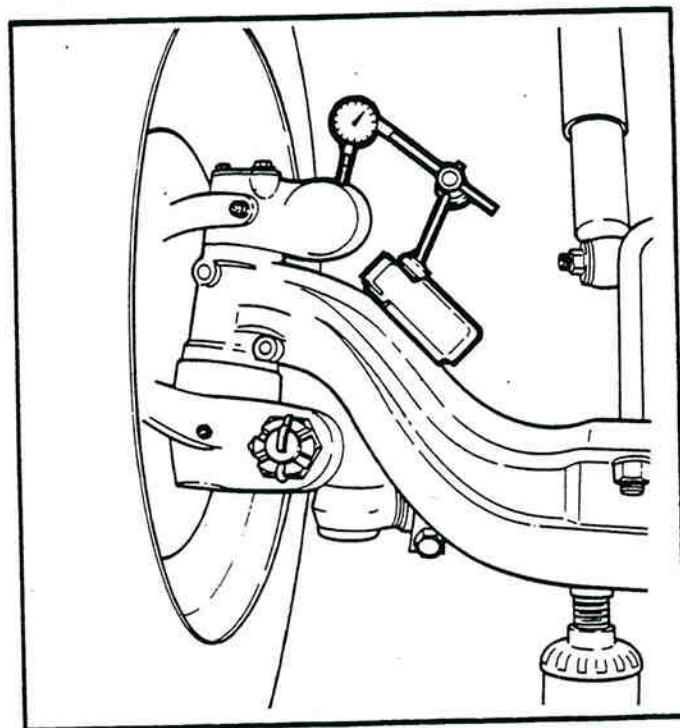

Figure 1-28. Dial Gauge Installed.
3. Attach a dial indicator to the axle beam with a "C" clamp or magnetic base (figure 1-28).